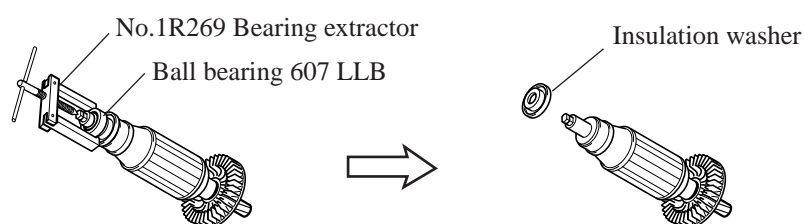

Fig. 30
5. Disassemble ball bearing 607 LLB from armature shaft as illustrated in Fig. 30.